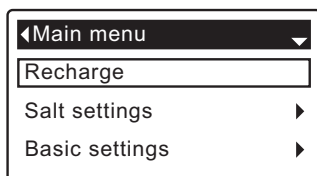

FIG. 26
During normal operation (status screens rolling), press the softener's SELECT (O) button to display the Main menu (See Figure 26). This menu and its subsidiary screens are used to control these operations: